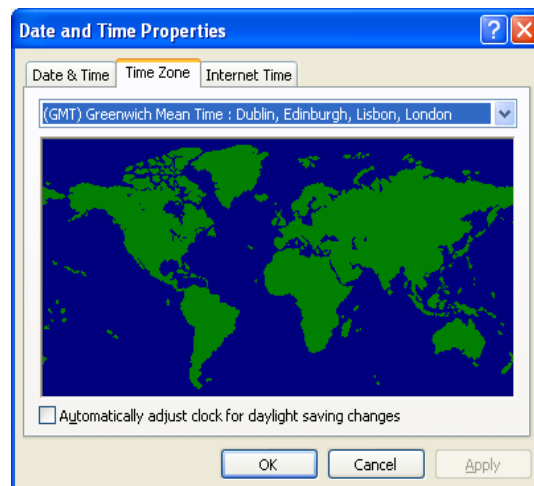

Figure A-8: Date and Time Properties Window
2. Double-click on the **time** icon located in the System Tray to open the *Date and Time Properties* window (Figure A-8).